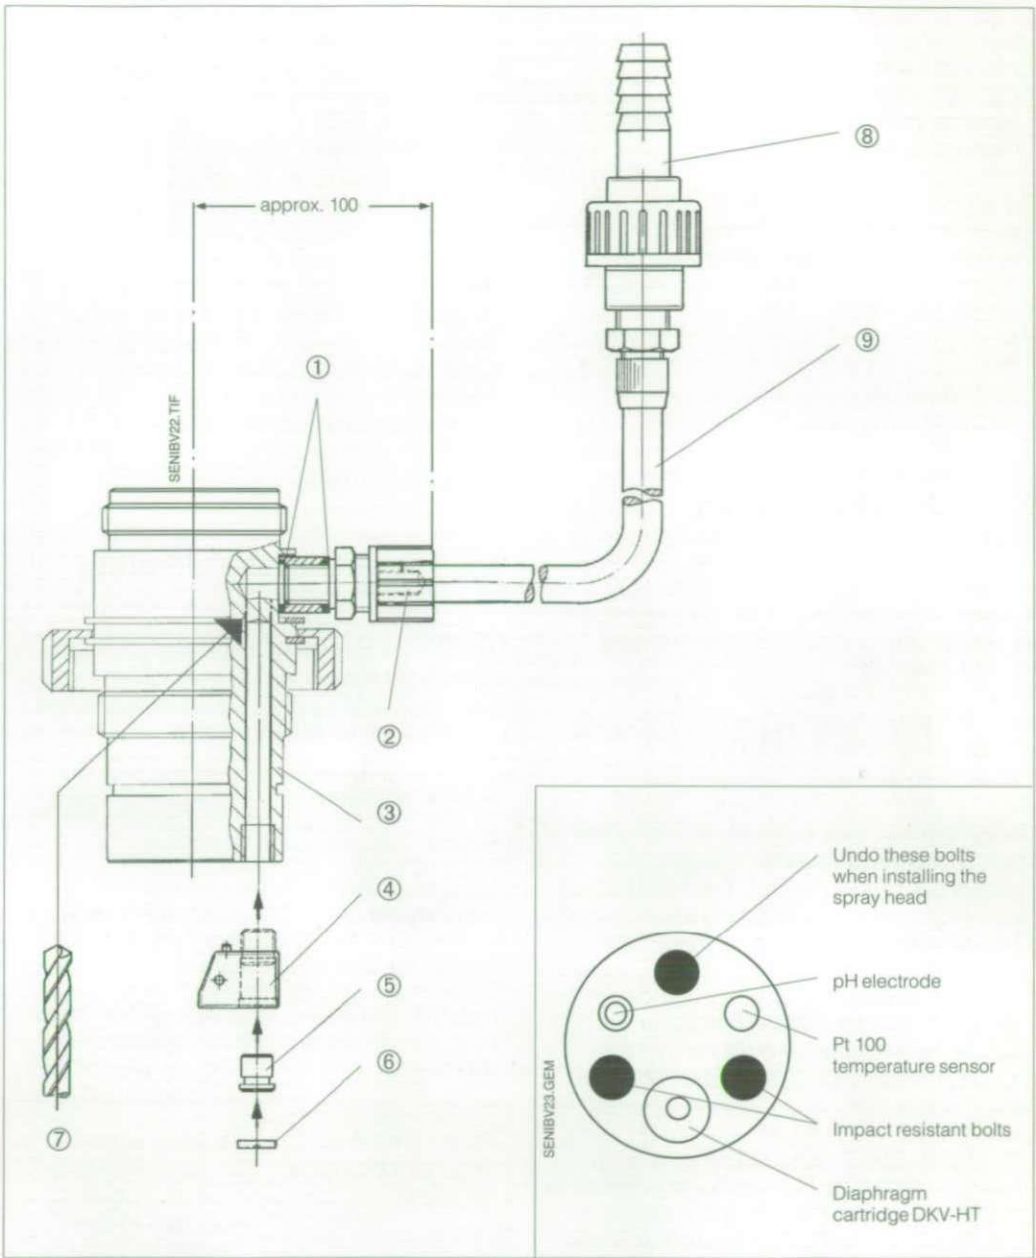

Fig. 22: Installation of cleaning system CPR 3 and connection fitting
- Drill out the predrilled connection channel (Fig. 22). Remove any chips and debur. Otherwise there is the risk that the spray nozzles will block.